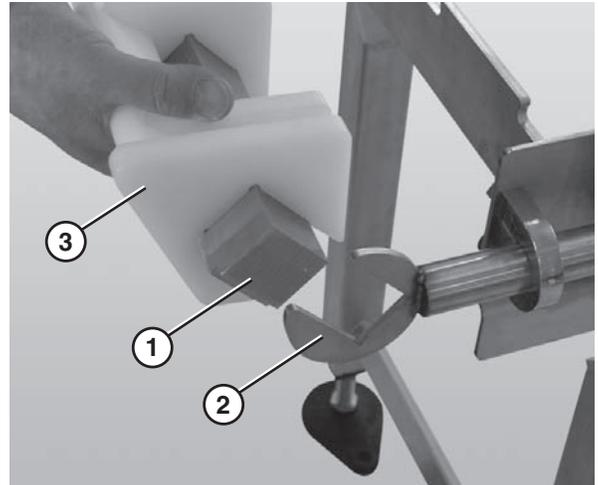

Figure 59
1. Slide the nose bar drive or transfer post (**Figure 59, item 1**) out of the nose bar drive weldment or idler hands (**Figure 59, item 2**).
2. Remove the nose bar tracking pucks (**Figure 59, item 3**), if applicable.